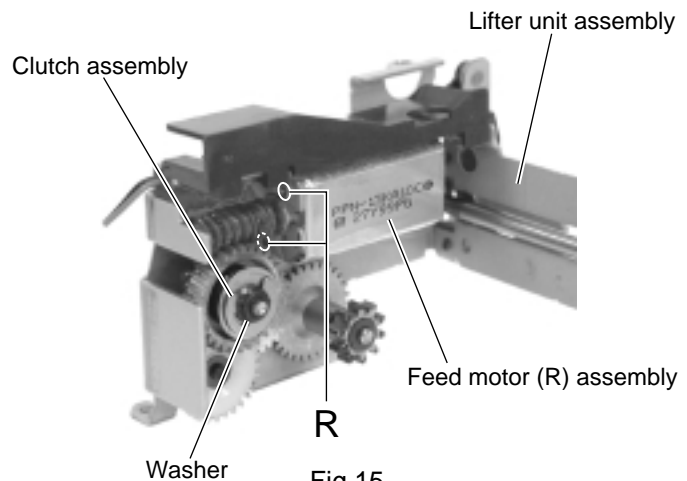

Fig.15
■ Removing the feed motor (R) (See Fig.15)